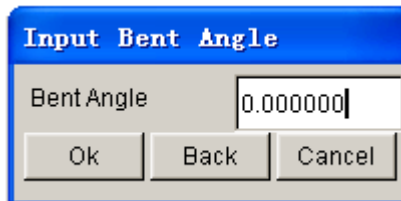

Figure 6.1.9 Input Bent Angle dialog box
- The **INPUT BENT ANGLE** dialog box as illustrated in Figure 6.1.9 is displayed. The bent angle is the angle between the unfolded surface and the base surface. The default angle (0°) indicates that unfolded surfaces are tangent to the base surfaces at the unfold line.